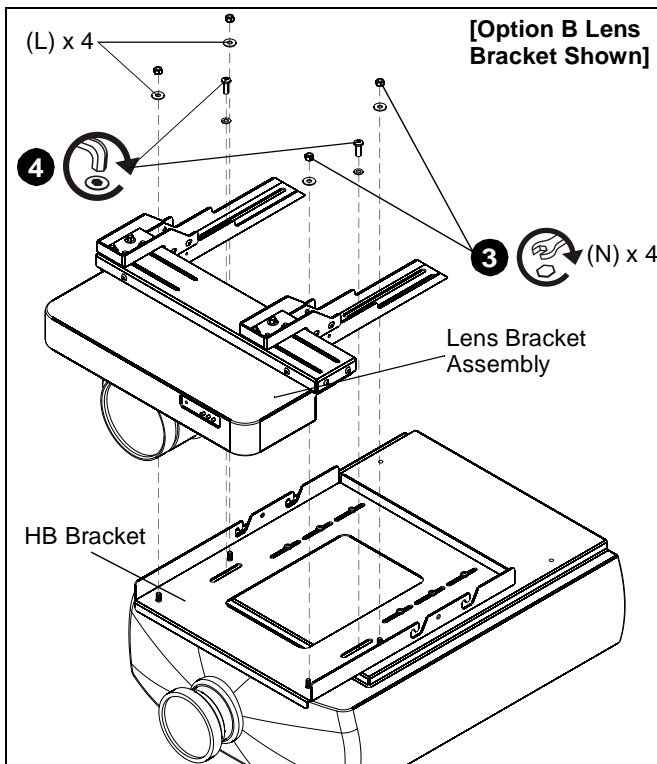

Figure 6
2. Place lens support brackets (A) and (B) with lens bracket assembly over the four studs on front of HB bracket. (See Figure 6)
3. Attach lens bracket assembly to projector HB bracket using four 5/16" flat washers (L) and 5/16-18 nylon lock nuts (N). (See Figure 6)